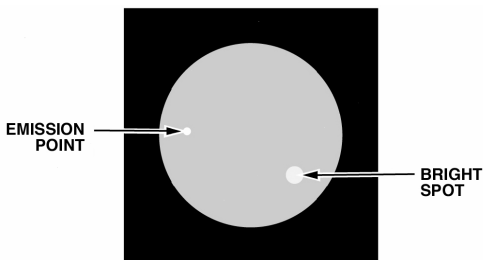
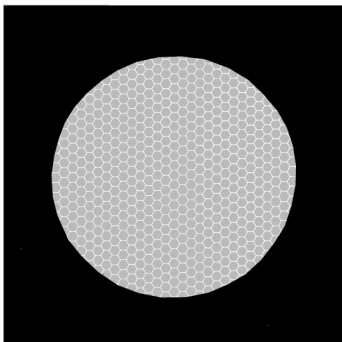

Figure 2-5. Bright Spots and Emission Points.
Figure 2-6. Fixed-Pattern Noise.
(1) **Bright Spots.** A bright spot is a small, nonuniform, bright area that may flicker or appear constant (Figure 2-5). Not all bright spots make the MNVD rejectable. Cup your hand over the objective lens to block out all light. If the bright spot remains, return the MNVD to the maintainer. Bright spots usually go away when the light is blocked out. Make sure any bright spot is not simply a bright area in the scene you are viewing. **Bright spots are acceptable if they do not interfere with the operator's ability to view the image or to perform the mission.**
(2) Emission Points. A steady or fluctuating pinpoint of bright light in image area that does not go away when all light is blocked from the objective lens of the monocular (Figure 2-5). The position of an emission point within the image area does not move. Not all emission points make the MNVD rejectable. Make sure any emission point is not simply a point light source in the scene you are viewing. **Emission points are acceptable if they do not interfere with the operator's ability to view the image or to perform the mission.**
(3) Black Spots. These are cosmetic blemishes in the image intensifier or dirt or debris between the lenses. Black spots are acceptable as long as they do not interfere with viewing the image. **No action is required if this condition is present unless the spots interfere with the operator's ability to view the image or to perform the mission.**
(4) Fixed-Pattern Noise. This is usually a cosmetic blemish characterized by a faint hexagonal (honeycomb) pattern throughout the viewing area that most often occurs at high light levels or when viewing very bright lights (see Figure 2-6). This pattern can be seen in every image intensifier if the light level is high enough. **This condition is acceptable as long as the pattern does not interfere with the operator's ability to view the image or to perform the mission.**